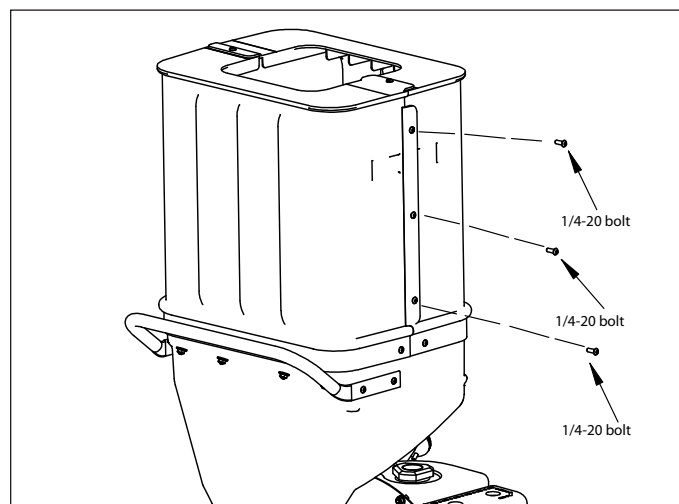

Figure 24
- 5) Place a 1/4-20 x 3/4 bolt (1960507) in each of the three holes along the two seams of the joined hopper extension halves. Secure each bolt with a flat washer and flange nut. **DO NOT fully tighten. SEE FIGURE 24.**